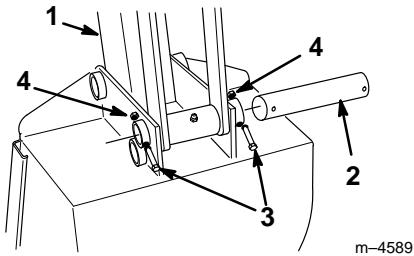

Figure 11
2. Remove the bolts and nuts securing each of the two bucket pins to the dipperstick (Fig. 11).
- Align the pin holes in the bucket with the mounting holes in the dipperstick (Fig. 11).
- Secure the bucket with the pins, bolts, and nuts removed previously (Fig. 11).